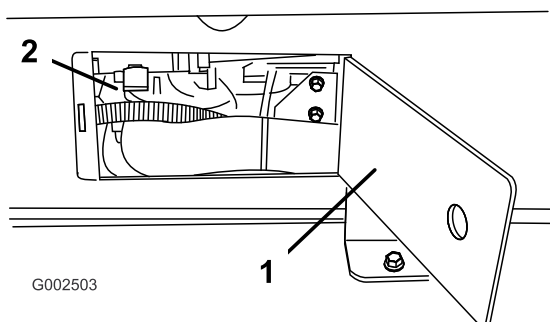

Figure 22
- Use the access panels on both sides of the tank skid to check for pinching of any hoses or wiring (Figure 22).